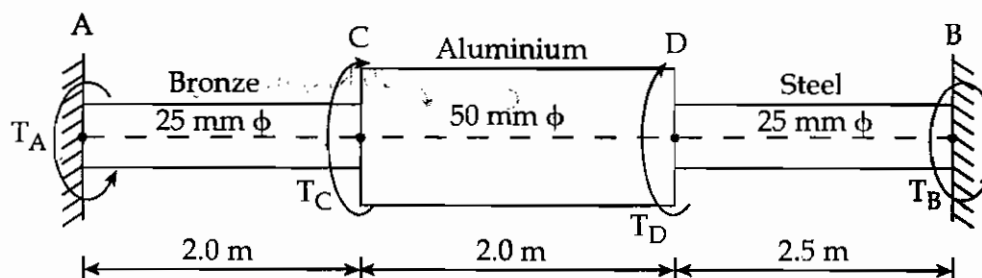

Figure 6
- (b) A shaft composed of segments AC, CD and DB is fastened to rigid supports and loaded as shown in Figure 6, for bronze  $G = 35 \text{ GPa}$ , Aluminium  $G = 28 \text{ GPa}$  and for steel  $G = 83 \text{ GPa}$ . Determine the maximum shearing stress developed in each segment.  $T_C = 300 \text{ N.M}$  and  $T_D = 700 \text{ N.M}$ . 10